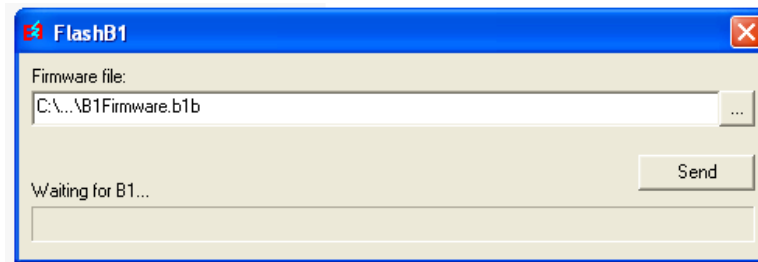

Figure 9 - FlashB1 software
- 4- Click "send" bottom. You should see something like in Figure 9 saying that the application is waiting for B1.